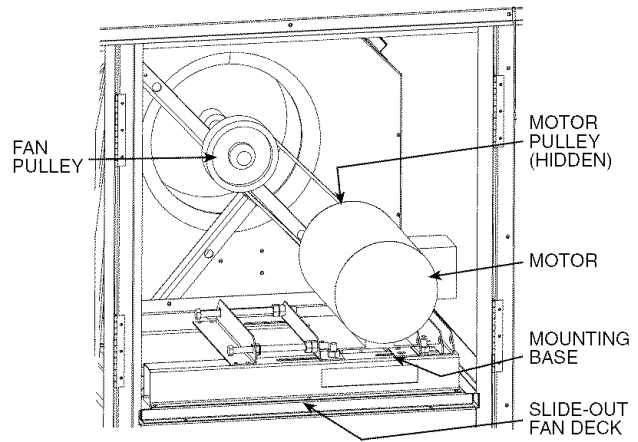

Fig. 27 — Evaporator-Fan Motor Adjustment
3. Remove three no. 10 screws at front of slide-out fan deck. Save screws. See Fig. 27.
Evaporator Fan Performance Adjustment (Fig. 27 and 28) — Fan motor pulleys are factory set for speed shown in Table 1.
4. Move motor mounting plate to adjust to proper belt tension. See Table 21. Motor adjuster bolts may be used to tighten belts. See Fig. 27.